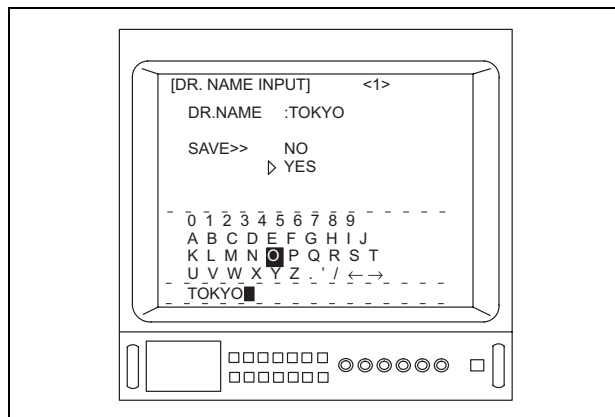

Figure 5.75
12. Depress the menu switches “” or “”, or the “” key on the keyboard to move the arrow “” to “YES” (see Figure 5.75).